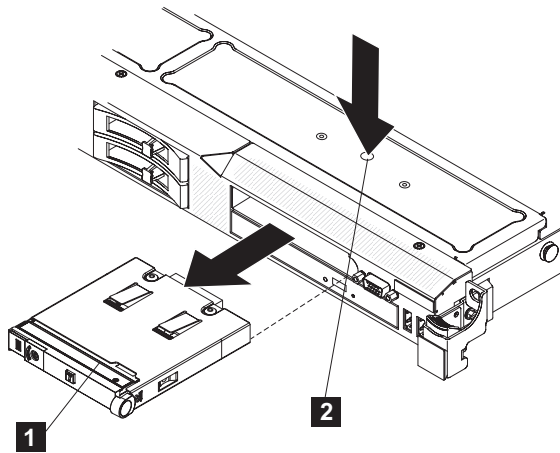

Figure 211. Using the release tab to remove the SAN Volume Controller 2145-CG8 or 2145-CF8 operator-information panel
7. Use an object to push down on the release tab ( **2** in Figure 211 on page 217).